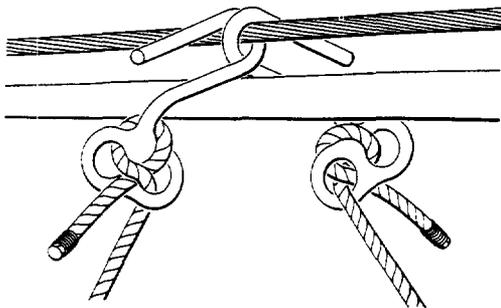
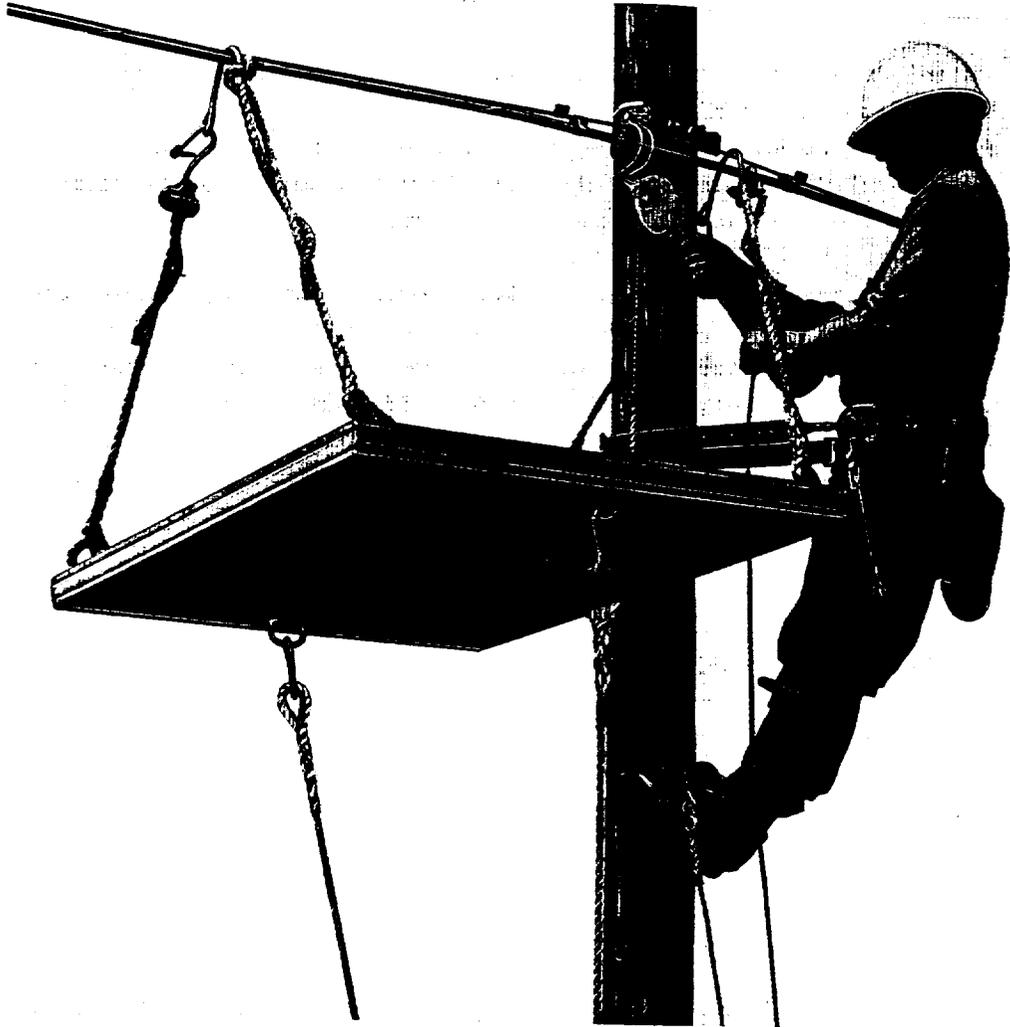
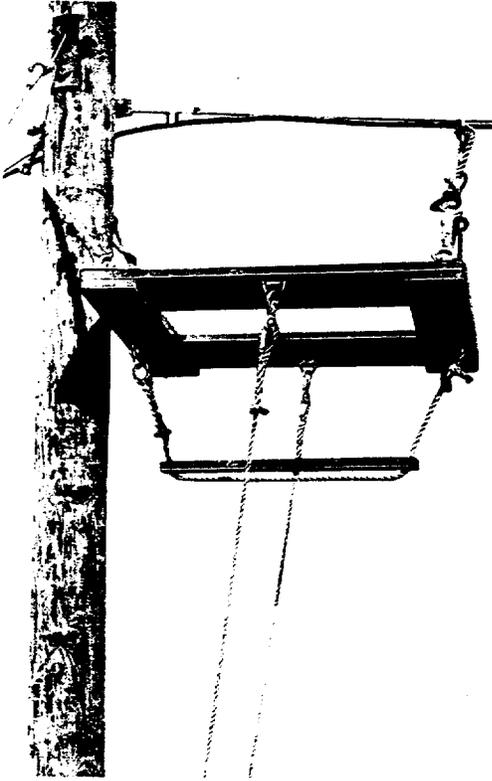
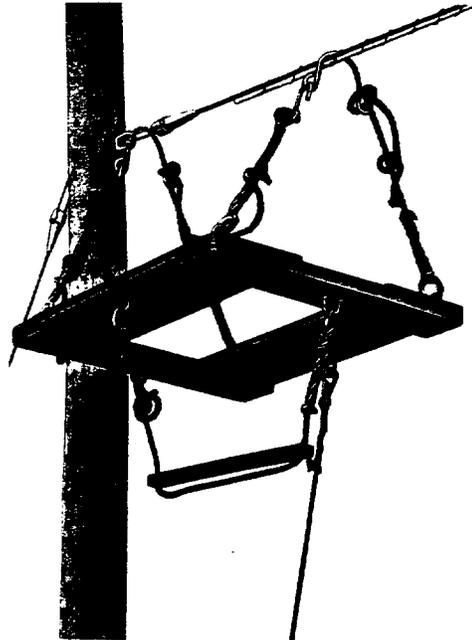

Fig. 5-Method of Engaging O Hooks
Fig. 9-E Platform Suspended at Pole
Fig. 10-D Platform Placed Adjacent to Pole
Fig. 11-D Platform At Dead-End Pole
- (g) Make sure that the support hooks have been properly attached to the strand. See Fig. 5, 6, and 7.
- (b) Make sure hooks and saddles are tied as shown in Fig. 5, 6, and 7.
- (d) Raise the platform to position approximately 30 inches below the strand and engage the locking mechanism of the B Handline to hold the platform. Engage the outer hooks or saddle and hook on the strand as shown in Fig. 5, 6, or 7. Release the B Handline lock and lower the platform until it is supported by the platform support ropes.
- (e) Disengage the handline from the hook on the platform and move the move the handline block along the strand to a position approximately 6 inches from the pole or ladder. Raise the lower side of the platform. Lock the handline and engage the hooks or saddle and hook as shown in Fig. 5, 6, 7. Release the handline lock and lower the platform until the support ropes hold it. See Fig. 9. When platform is placed adjacent to a pole the support ropes are located as shown in Fig. 10. When platform is placed at a dead-end pole the support ropes are located as shown in Fig. 11. The hooks or hook and saddle should be attached:
- (f) After the hooks or saddles and hooks are in place on the strand, the platform may be leveled by moving the support ropes through the double eye of the hook or saddle. Do not attempt any adjustments on the support ropes when standing or sitting on the platform. See Fig. 5, 6, and 7.